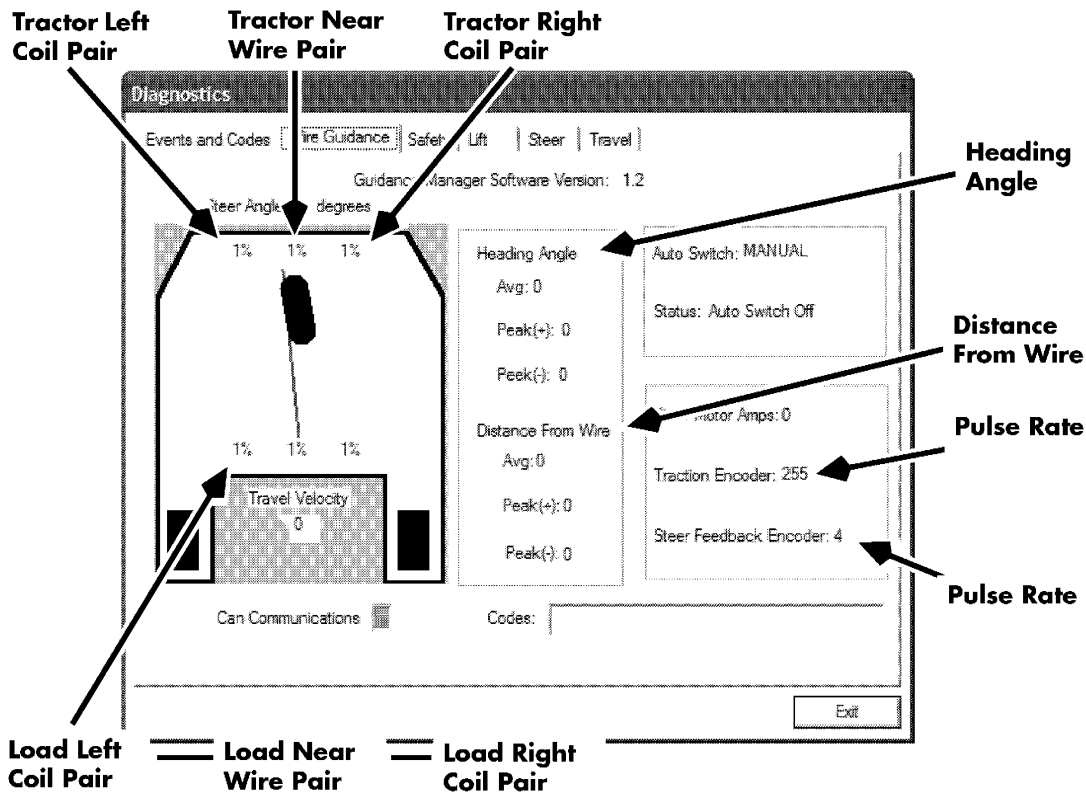

Figure 8-19. Wire Guidance Diagnostics Screen
7. Check the values for the parameters in the following table. See Figure 8-19. If the truck shows higher values than listed